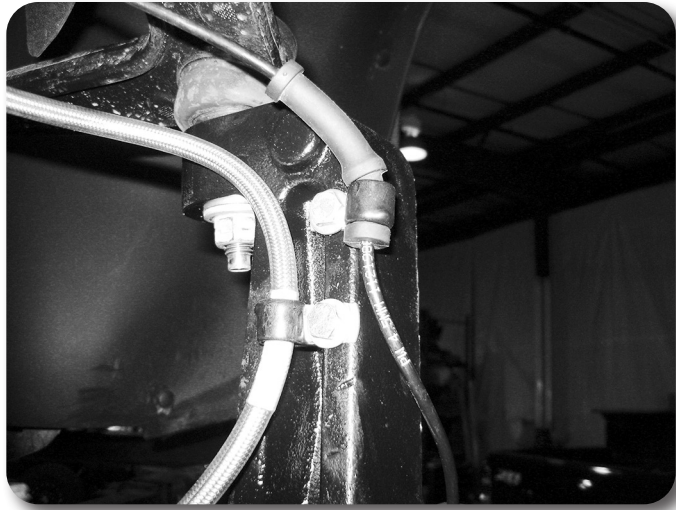

Figure 43A
65. There are two threaded holes near the top of the steering knuckle neck on the back side. Using a provided wire clamp, 1/4" x 5/8" bolt, flat washer and lock washer loosely fasten the brake line to the lower threaded hole on the steering knuckle. Using the same fastener combination, attach the ABS line to the upper threaded hole. Pull slack out of the line between the clamp and the caliper to provide as much loose line as possible above the clamp then tighten to lock it in place. The hardware will be tightened once the line slack is set. **Figure 43A**